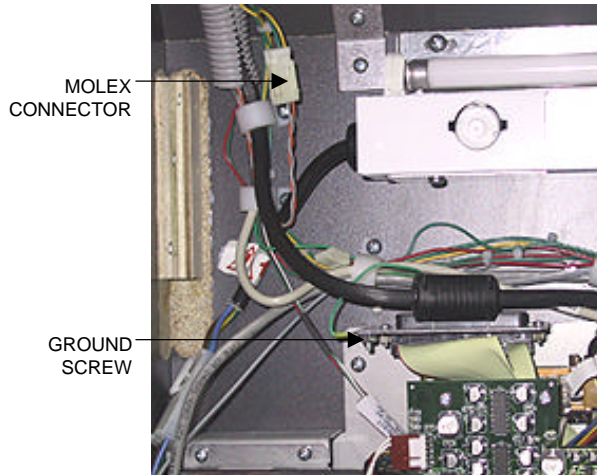

FIGURE 13 - FORCE FUSION - CLOSEUP OF CPU SECTION
11. Connect the touchscreen controller cable in the back of the controller and secure the controller in the game with the existing hardware. Then connect the Molex connector (orange and gray wires) to the main power harness and attach the ground screw. Replace the cables in the clamps as before. See Figure 13.